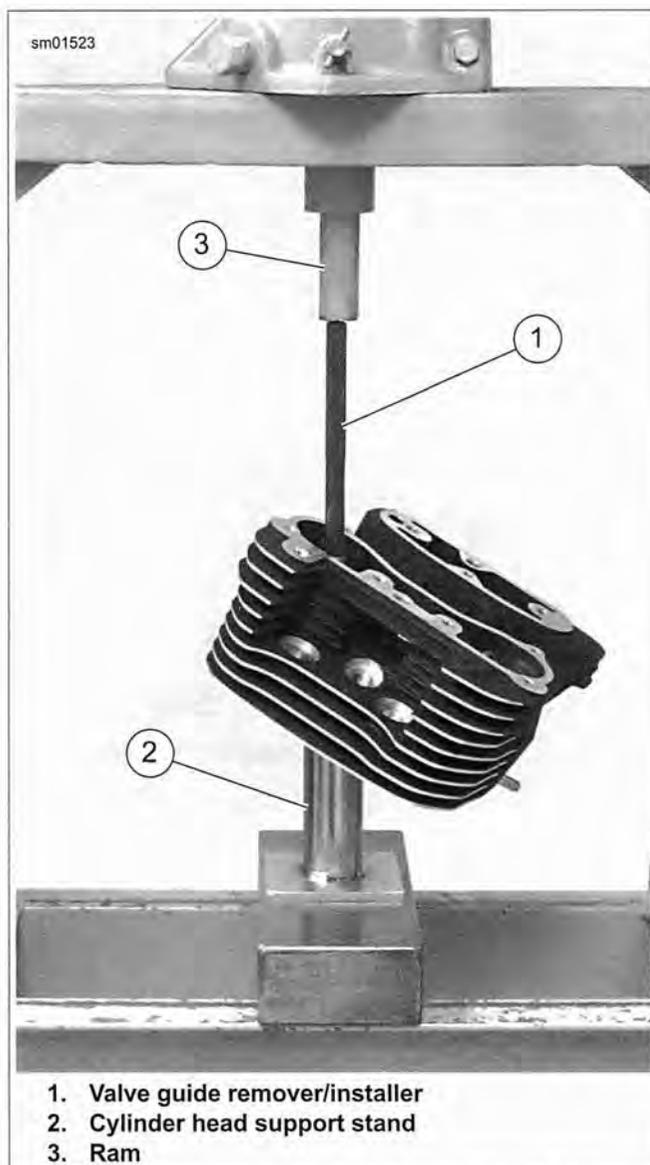

Figure 3-61. Removing Shoulderless Valve Guide
2. See Figure 3-61. At top of the cylinder head, insert VALVE GUIDE REMOVER/INSTALLER (Part No. B-45524) (1) into valve guide bore until tool shoulder contacts end of valve guide.